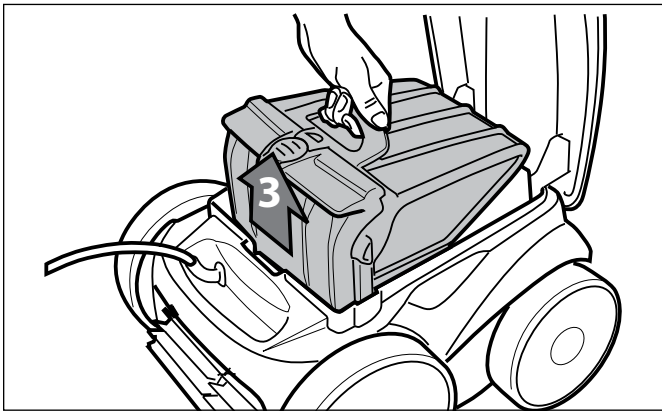

Figure 25. Remove Filter Canister Assembly
6. Remove the filter canister assembly from the body (3), as shown in Figure 25.